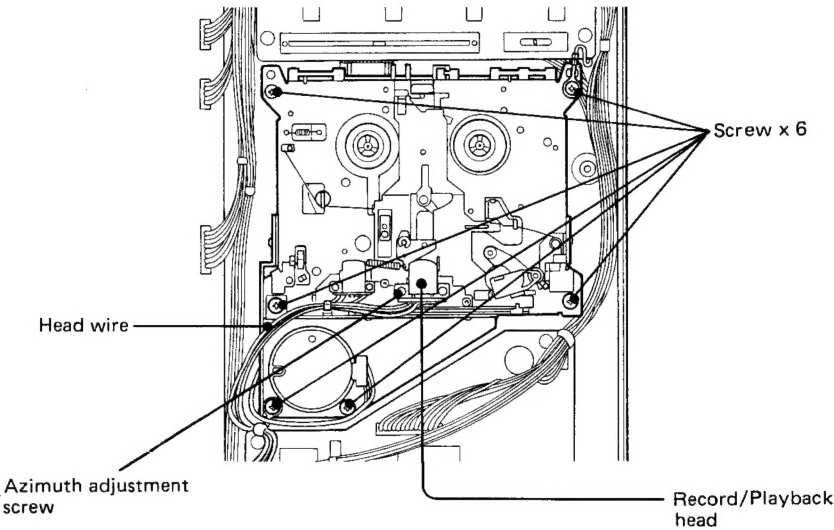
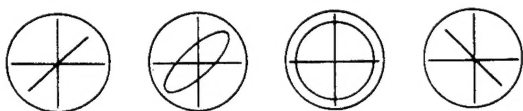

Fig. 7-2 Mechanism Assy
Fig. 8-4
Remove the top case and pull off the six screws holding the mechanism assembly mounted on the bottom case. (Fig. 7-2)
- 3) First reproduce a test tone of 315 Hz, and coarsely adjust the azimuth adjusting screw (Fig. 7-2) to obtain approx. zero phase difference as shown in the Fig. 8-4. Next, reproduce a high frequency tone of 10 kHz and proceed to the fine adjustment.
- d) Adjust the trim pot RM09 (RM11) (Refer to Fig. 7-2) provided on the CPU PCB with a small "—" driver to obtain $3000 \text{ Hz} \pm 5 \text{ Hz}$ reading on the frequency counter.